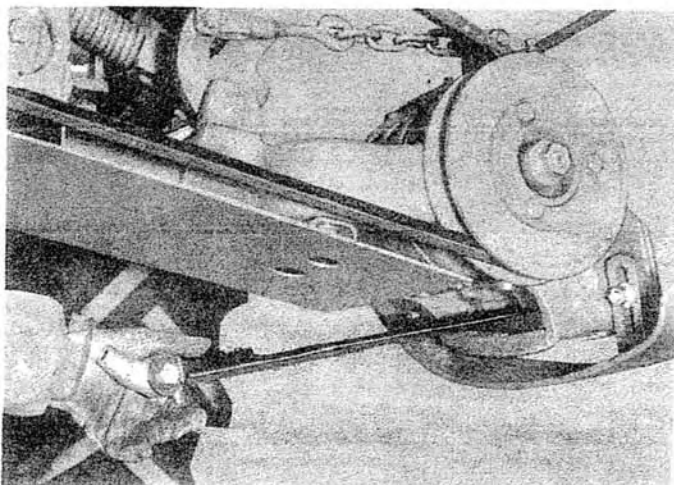

Fig. 45 - Knife Replacement
To remove a knife, either for replacement or repair, the cutter bar may either be flat on the ground (as in Fig. 45) or blocked up. Raising the cutter bar off the ground will give easier access to the knife, although if this method is used, the operator must be careful to block both ends of the cutter bar up so that it is supported evenly and the knife is not bowed.
5. The replacement knife can now be slipped into the end of the cutter bar (Fig. 45); when it is fully home, with the tapered plug engaged in the center lever, the retaining bolt should be replaced and screwed down tightly.